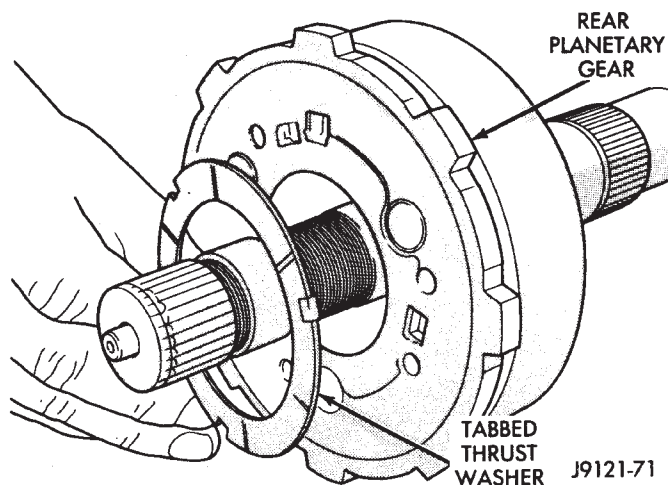

Fig. 183 Installing Rear Planetary Thrust Washer
(6) Install tabbed thrust washer on front face of rear planetary gear (Fig. 183). Seat washer tabs in